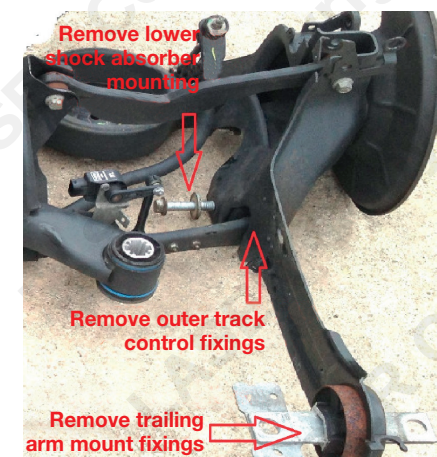

Fig 1
- Remove lower outer track control arm fixing as shown in **Fig 1**.